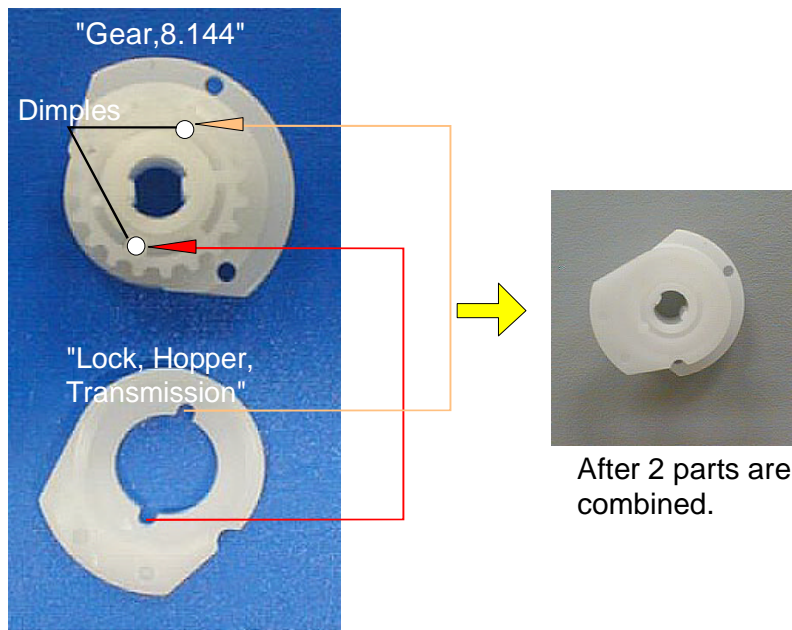

Figure 4-87. Combining "Hopper Lock Transmission Gear Assembly"
3. In case of separating "Hopper Lock Transmission Gear Assembly" into "Gear,18.144" and "Lock, Hopper, Transmission", insert 2 holes on the "Lock, Hopper, Transmission" to 2 dimples on the "Gear, 18.144" and assemble them. (Refer to Figure4-87)